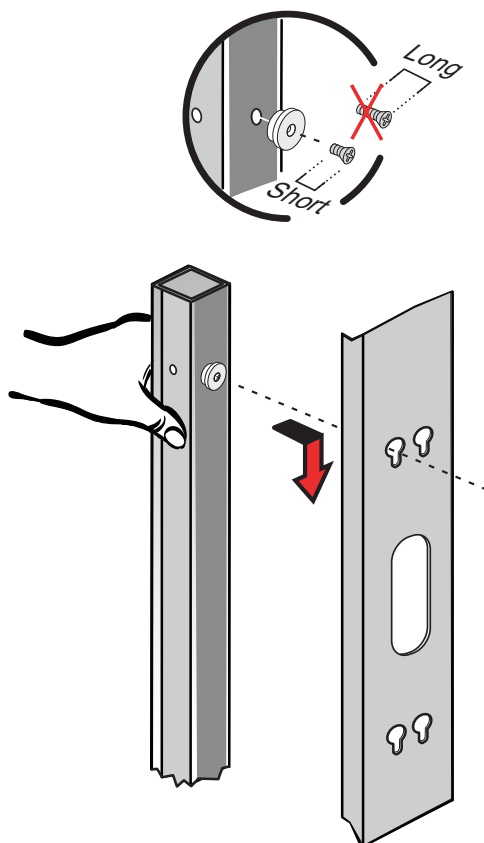

Figure 9. Securing the PDU
3. Push down to secure the PDU in position (see Figure 9).